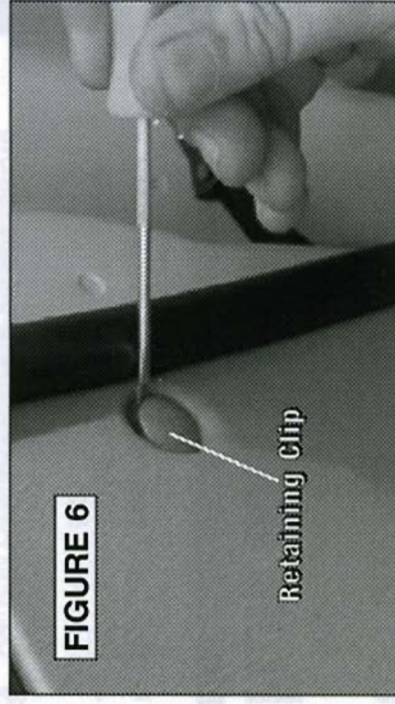

FIGURE 6
5. Pry out one (1) retaining clip located in upper front area of door panel (Figure 6).